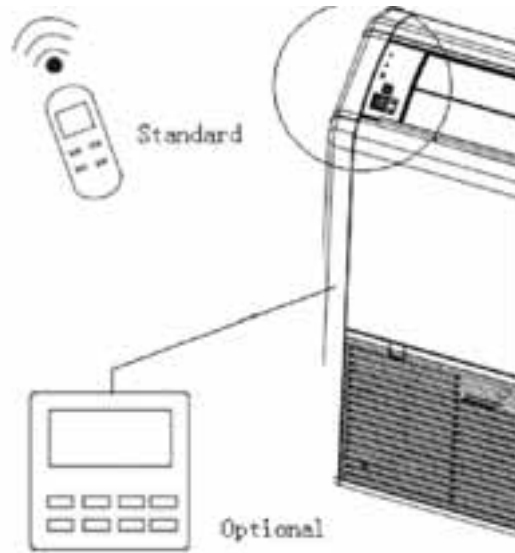

Fig 5.4.2
- (6) Both IDU and wired controller are equipped with signal receiver, and available for remote control respectively.(Fig 5.4.2)